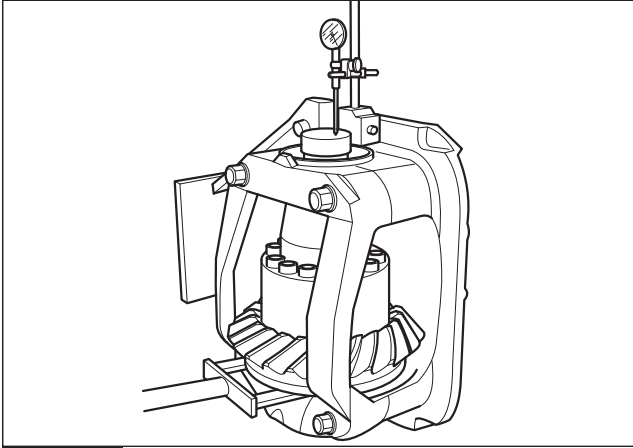

Fig. 2.5
5. Check end float of differential housing assembly. (Fig. 2.5)